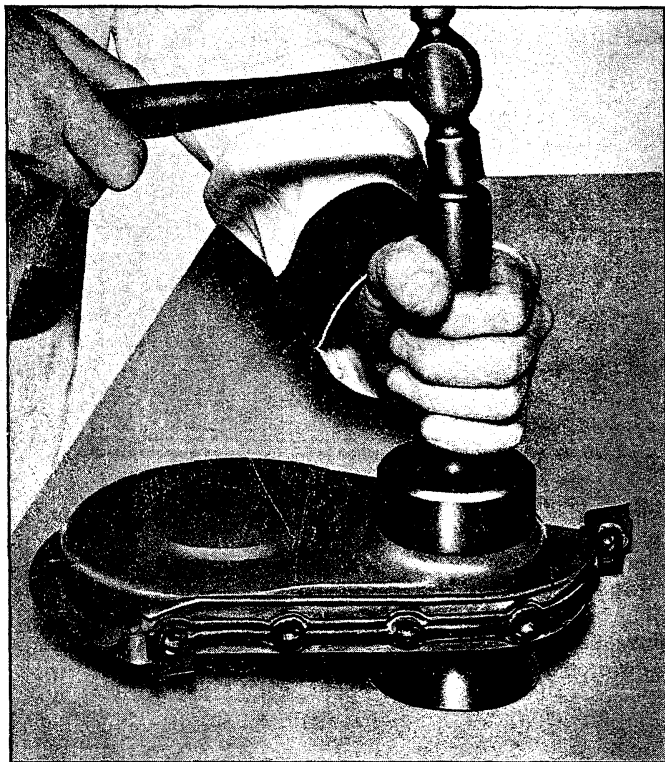

Fig. 12L - Installing Oil Seal (Cover Removed)
2. Install new seal so that open end of the seal is toward the inside of cover and drive it into position with Tool J-995 (fig. 12L).